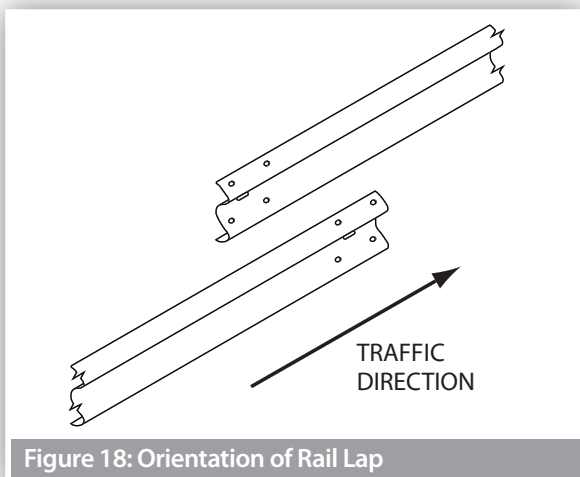

Figure 18: Orientation of Rail Lap
11. Rails are orientated so that no leading edge is presented to the traffic face as shown in Figure 18.
9. Rails are overlapped so that no leading edge is presented to the traffic face as shown in Figure 18.